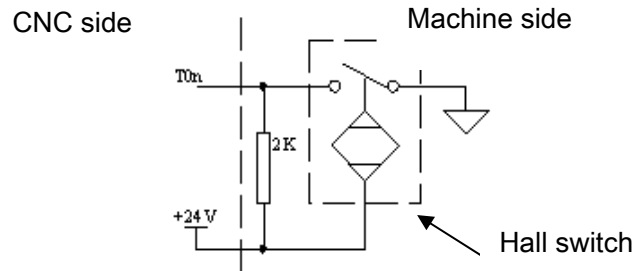

Fig. 2-31
3. The external circuit of the tool number signal is shown in Fig. 2-31, when the tool number signal is low level active, it requires an external pull-up resistor.